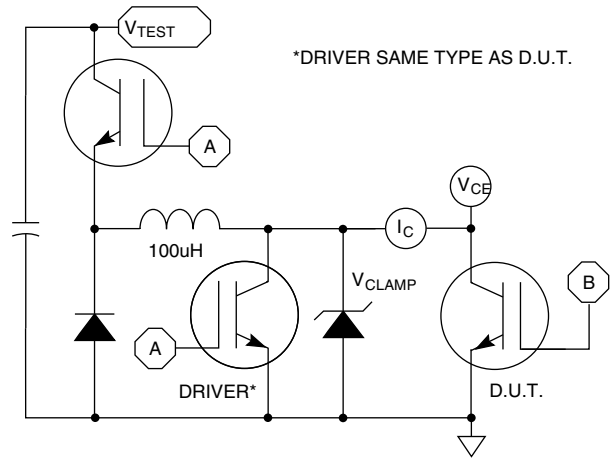

Figure 24, E_{ON1} Test Circuit
- ① Repetitive Rating: Pulse width limited by maximum junction temperature.
- ② For Combi devices, I_{ces} includes both IGBT and diode leakages
- ③ See MIL-STD-750 Method 3471.
- ④ E_{on1} is the clamped inductive turn-on-energy of the IGBT only, without the effect of a commutating diode reverse recovery current adding to the IGBT turn-on loss. (See Figure 24.)